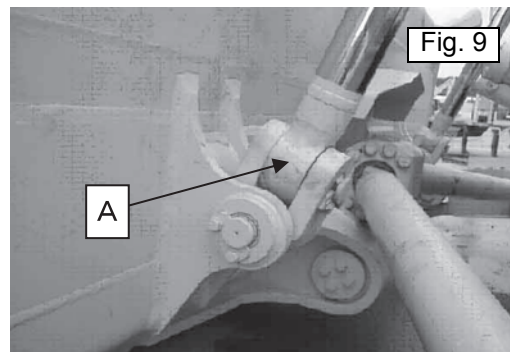

Fig. 9
5.3) Start the engine and operate the blade control lever to extend/retract the hydraulic cylinder rod and align it with the connecting hole (joint link) of the blade assembly. Part (A) in (Fig. 9)
5.4) Insert the connecting pin in part A. (Fig. 9)
5.6) Set the lock to the connecting pin head and bolt it to the joint link. (Fig. 9)